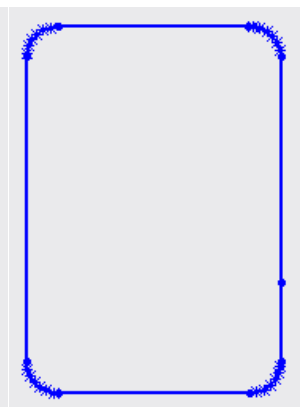

Figure 4
13. The sketch is now a fully closed loop that CAMWorks can wrap (**Figure 4**).